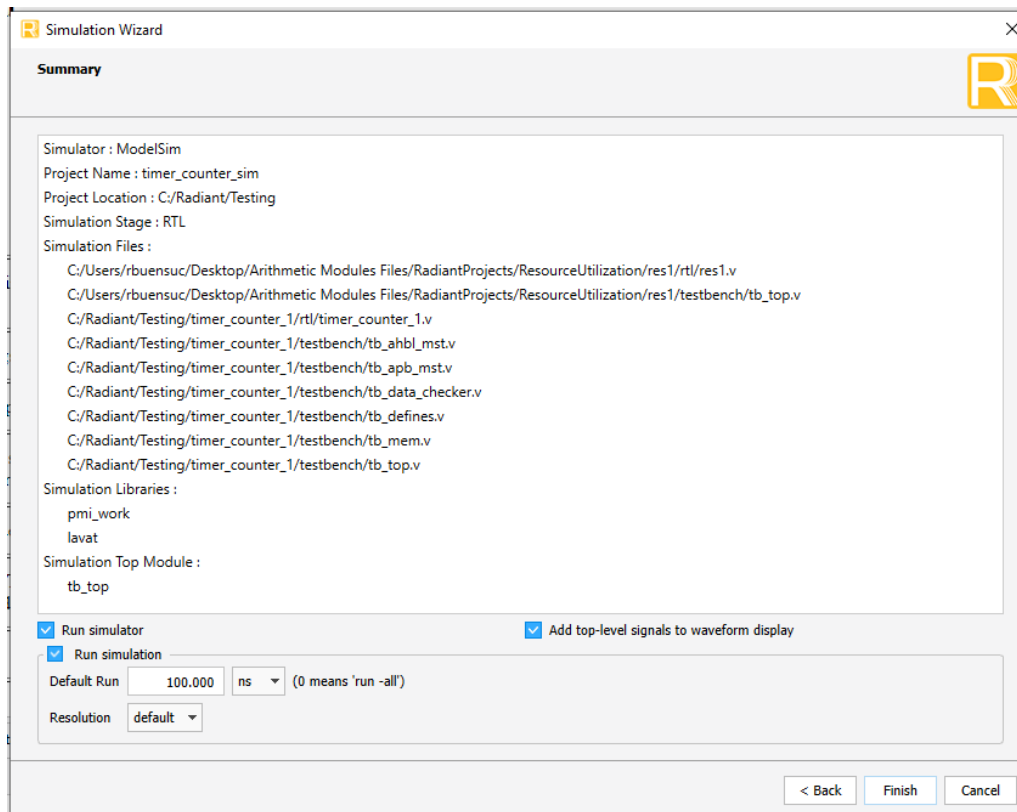

Figure 3.6. Summary Window
3. Click **Next**. The **Summary** window is shown in Figure 3.6.